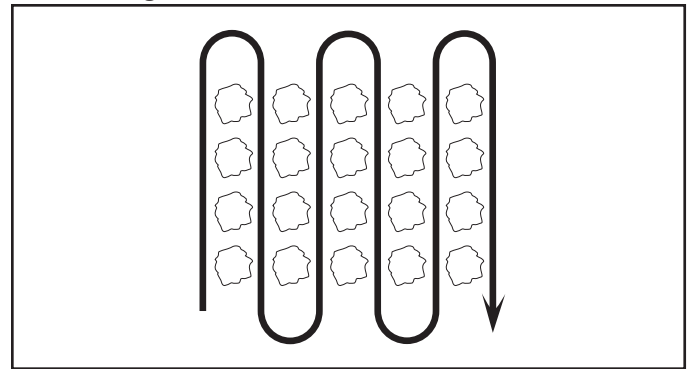

Fig. 16
- Cultivate up and down the rows at a speed which will allow tines to uproot weeds and leave the ground in rough condition, promoting no further growth of weeds and grass (See Fig. 16).